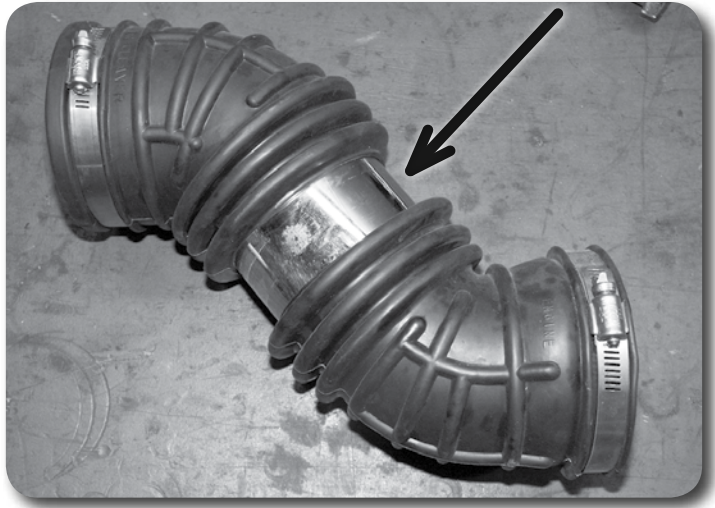

Figure 23
57. Remove the air intake tube from the intake. Locate the center rib in the middle of the intake tube. Cut the tube in half along the rib. Install the provided 3-1/2" OD x 4" long intake tube extension in each section of the tubing and fasten with the provided #72 hose clamps **Figure 23**.